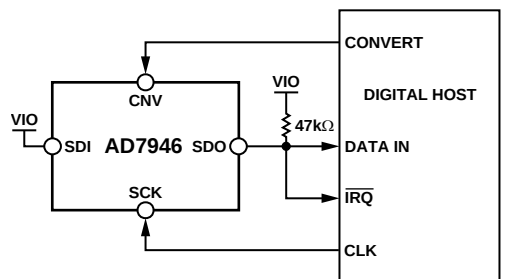
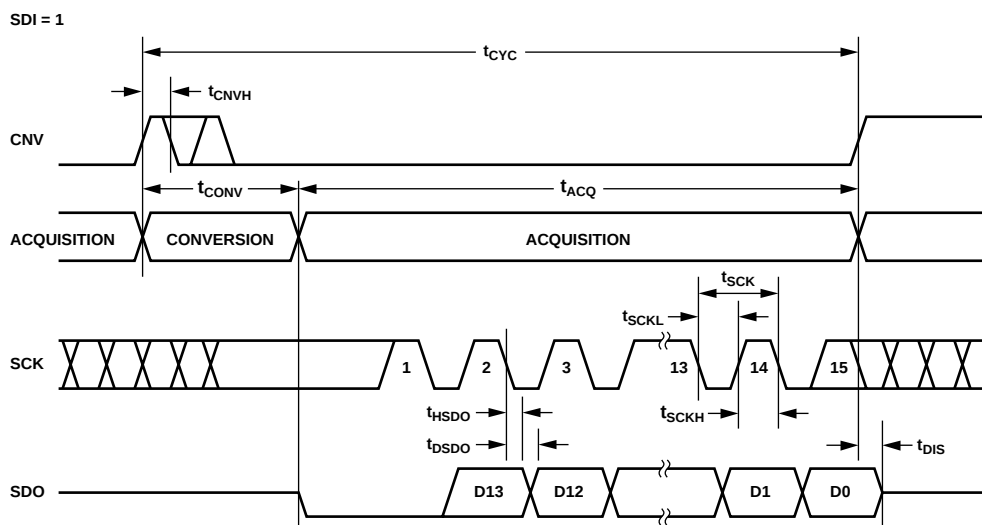
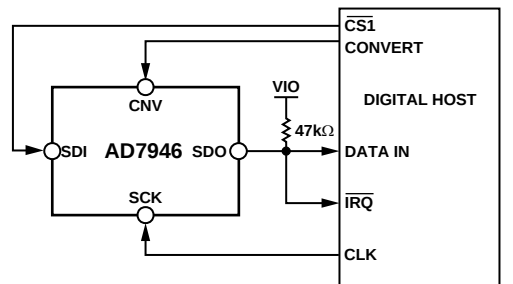
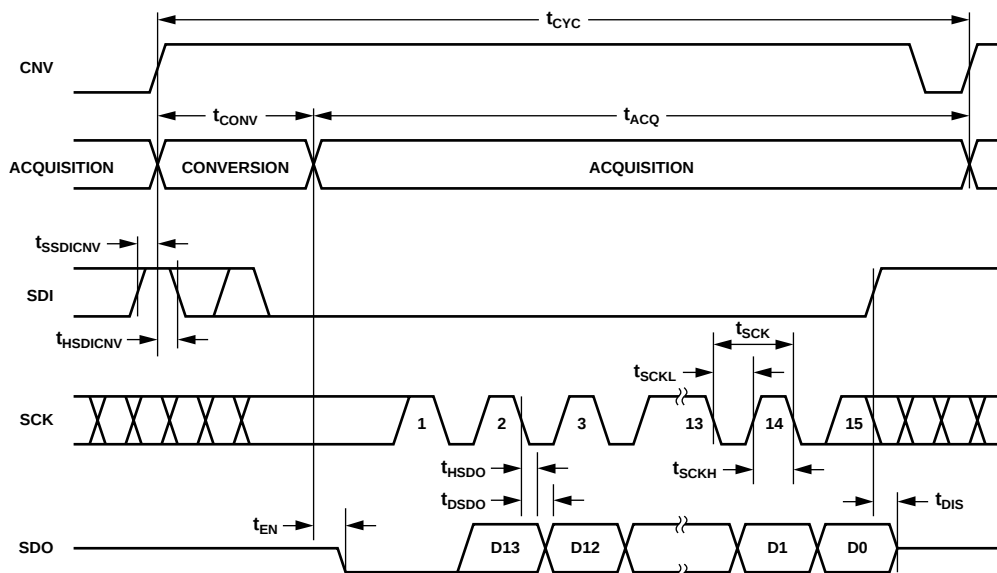

Figure 35. $\overline{\text{CS}}$ Mode 3-Wire with BUSY Indicator Connection Diagram (SDI High)
Figure 36. $\overline{\text{CS}}$ Mode 3-Wire with BUSY Indicator Serial Interface Timing (SDI High)
Figure 39. $\overline{\text{CS}}$ Mode 4-Wire with BUSY Indicator Connection Diagram
Figure 40. $\overline{\text{CS}}$ Mode 4-Wire with BUSY Indicator Serial Interface Timing
- In $\overline{\text{CS}}$ mode, if CNV or SDI is low when the ADC conversion ends (Figure 36 and Figure 40).
The connection diagram is shown in Figure 35, and the corresponding timing is given in Figure 36.
The connection diagram is shown in Figure 39, and the corresponding timing is given in Figure 40.